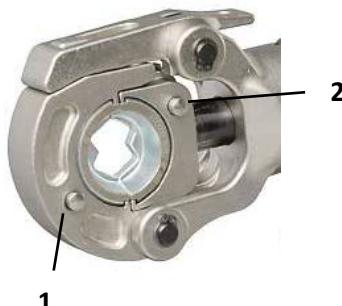

Figure 2 Crimping head with dies
- 2 In order to implement or remove the dies push the unlocking knob (1 und 2) and hold it down (see Figure 2).